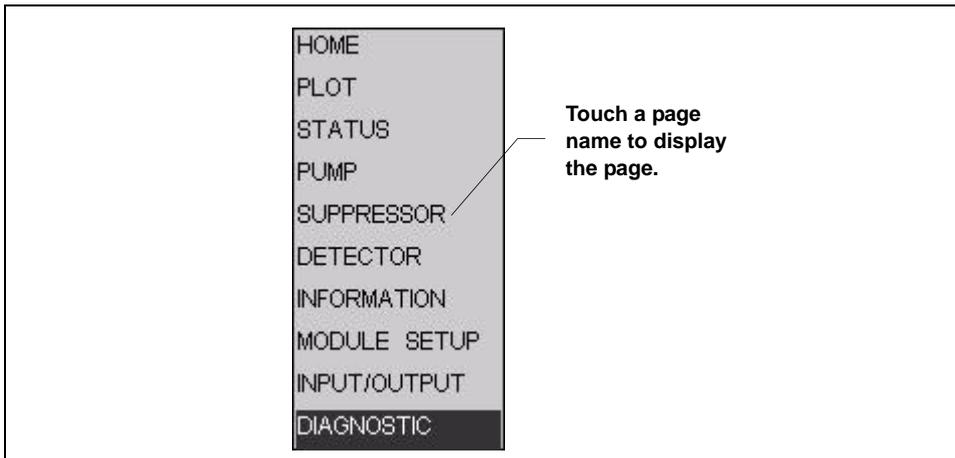

Figure C-3. ICS-1500 Touch Screen Menu of Pages
- Touching the page name (for example, ) in the bottom right corner opens a menu of pages (see Figure C-3).